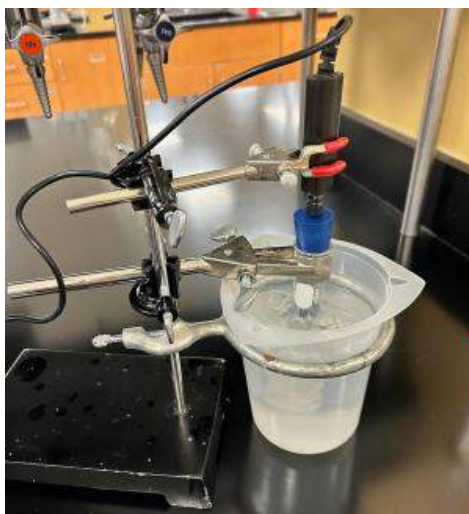

Figure 5: T-butanol freezing point apparatus
3. Place the t-butanol in the 600 mL beaker of warm water. While the t-butanol is warming, set up the freezing point apparatus as shown in Figure 5 below using a 50-mL test tube with rubber stopper, a large thermistor, and a plastic cup filled with ice and water.
7. Secure the test tube in a test tube clamp on a ring stand as shown in Figure 5 above.